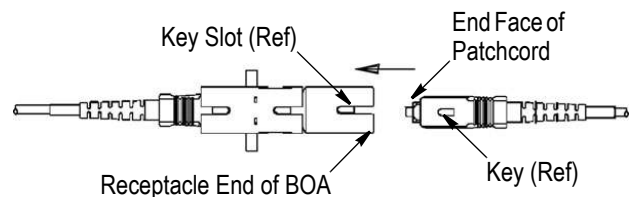

Figure 2
4. Align the plug end of the BOA with one end of the adapter, and insert the BOA into the adapter. Refer to Figure 2, Detail A. Make sure that the BOA is fully connected. For a BOA with threaded ends, finger-tighten the BOA to a torque of approximately 0.23 N-m [2 in.-lb].
7. Align the end face of the patchcord with the receptacle end of the BOA, and insert the patchcord into the BOA. Refer to Figure 2, Detail B. Make sure that the patchcord is fully connected. For a patchcord with threaded ends, finger-tighten the patchcord to a torque of approximately 0.23 N-m [2 in.-lb].